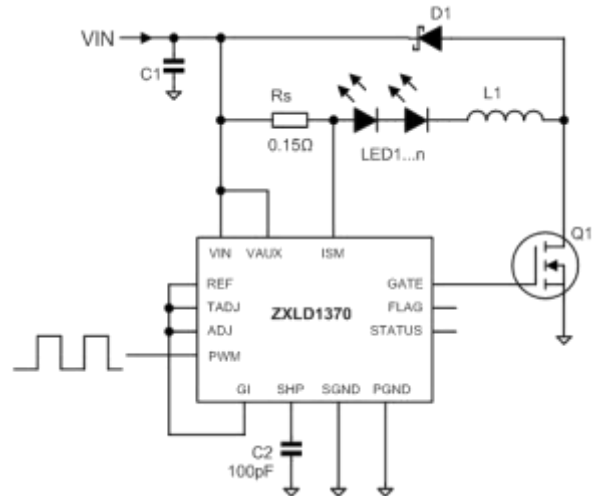

Figure 21 Buck Configuration
a) Buck Mode – the most simple buck circuit shown in Figure 21